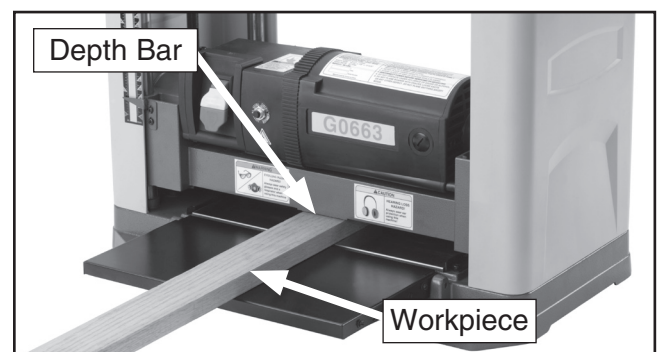

Figure 10. Setting depth of cut.
3. Place your workpiece on the infeed table and lower the cutterhead case until the depth bar just touches the workpiece, as shown in **Figure 10**.